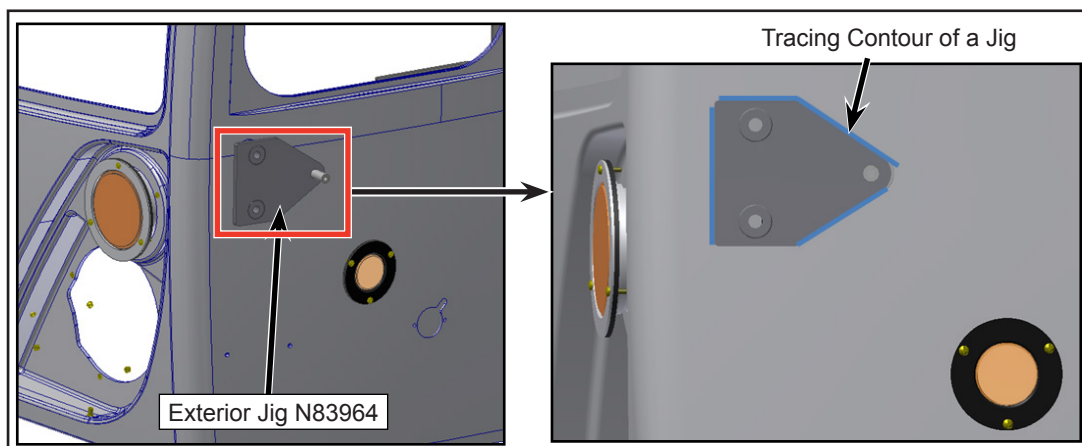

Figure 9 - Typical View of Tracing Contour
- 1.9. Place exterior jig N83964 align to the two existing holes and trace contour with a marker. Remove and retain the N83964 and N83971 (see Figure 9).